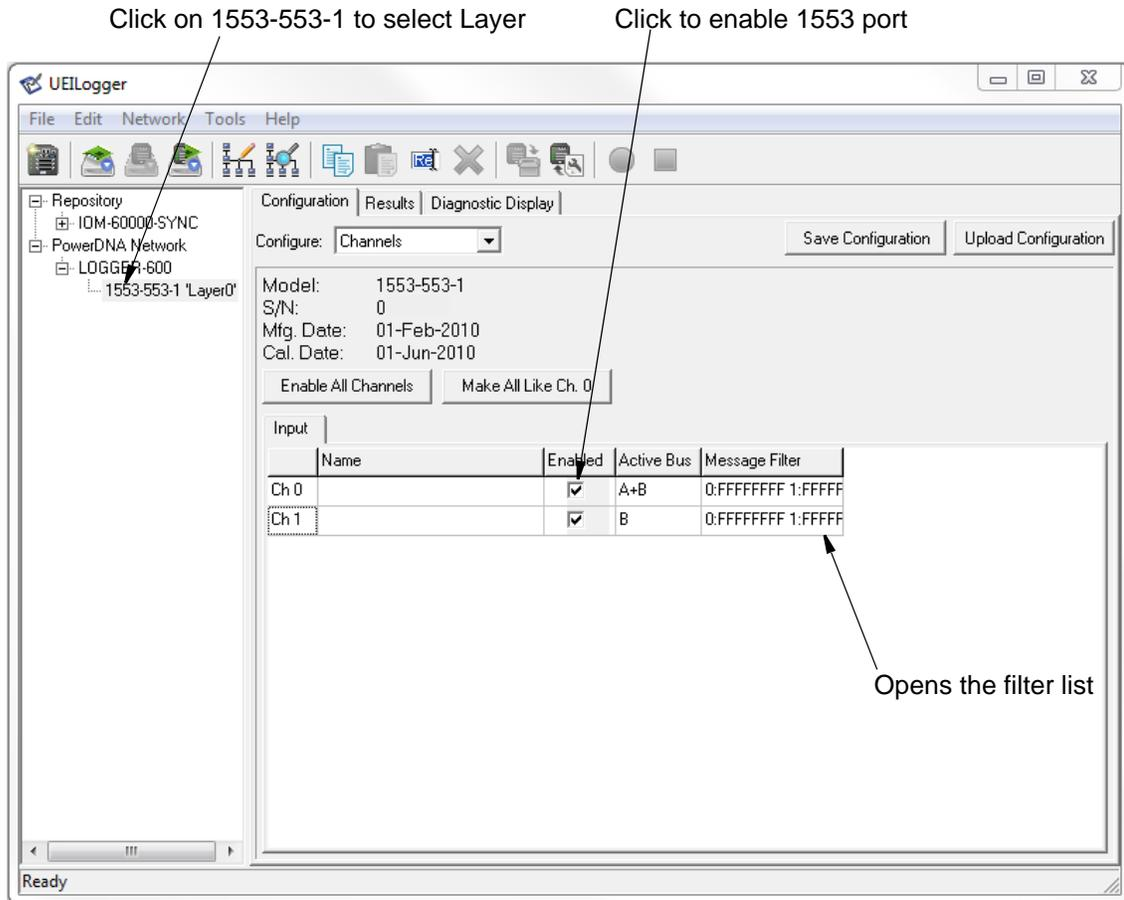

Figure 2-54 Configuring the 1553 ports
- STEP 1:** In the left window of the Logger screen, click on the Layer marked 1553-553. Then, in the right hand window, click on the *Configuration* tab. In the *Configure* box, pull down the menu and select *Channels*. The screen shown in **Figure 2-54** then appears.